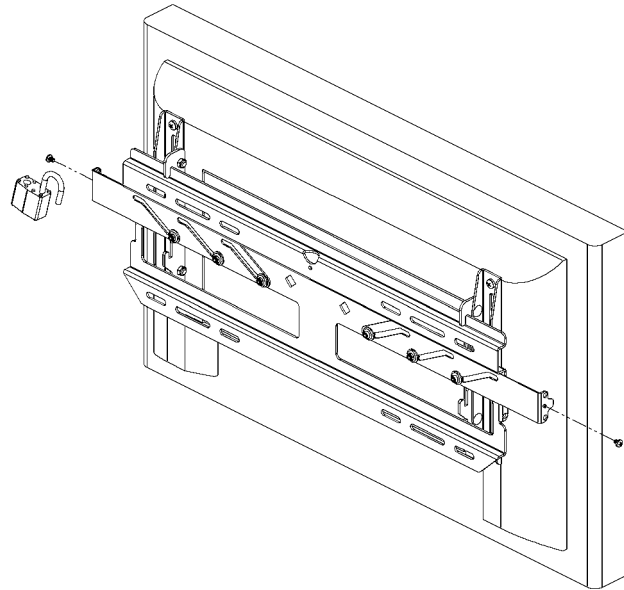

Figure 10. Remove Security Hardware
1. If applicable, remove the self tapping screws (70) and/or padlocks from both sides of the wall plate. This hardware provides security (see Figure 10).